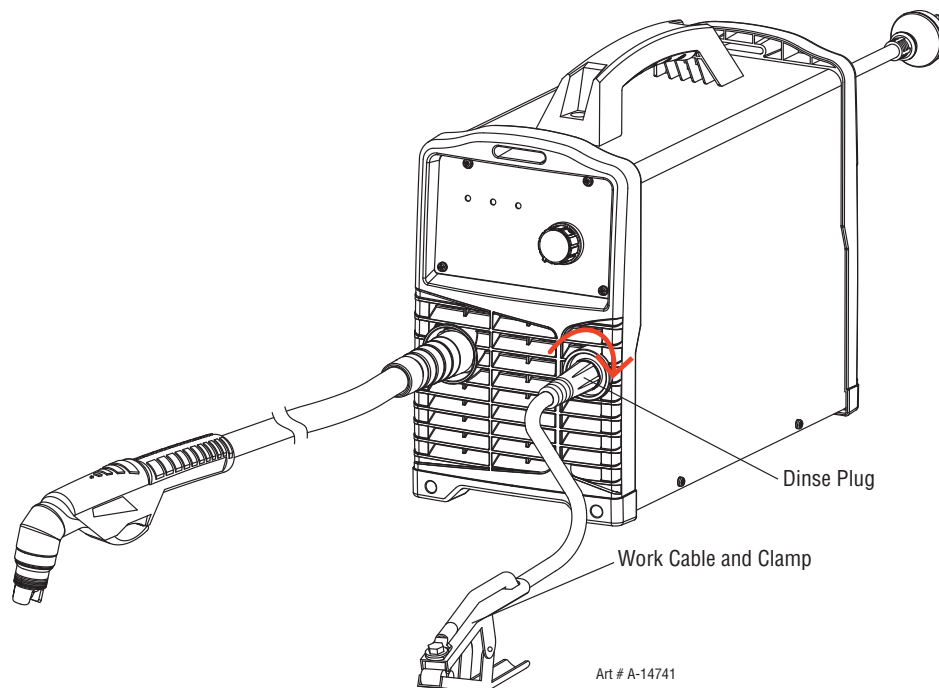

Figure 3-4: Connecting Work Lead
1. Attach the male dinse plug of the work lead to the dinse socket on the front panel (refer to 2.04.4) as shown in Figure 3-4. Push in and turn clockwise for a secure and sound electrical connection.